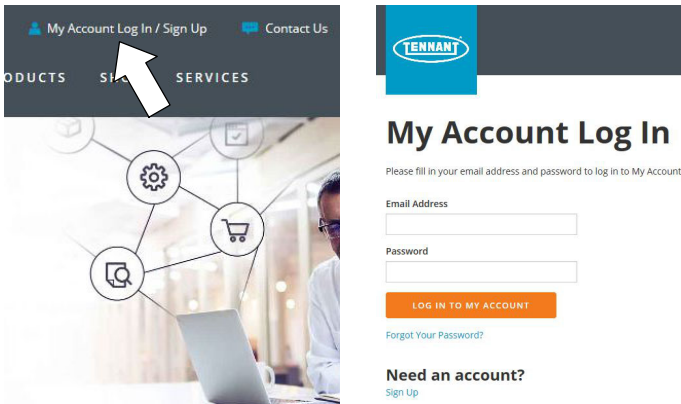

Fig. 26
1. Press “My Account Log In/Sign Up” to open or create an account (Figure 26).